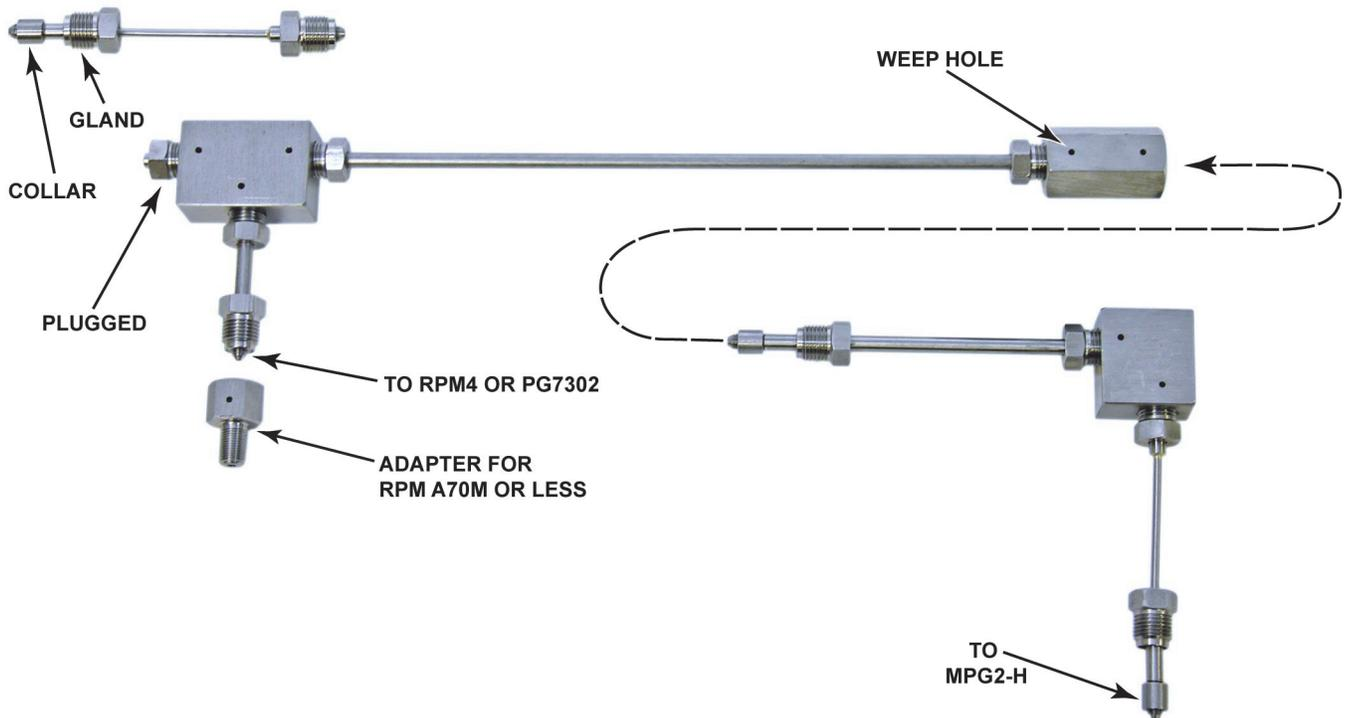

Figure 1: Nipples installed in 3-way tee, elbow and union
- Install nipples into three way tee and elbow:** Install the 2.75 in. nipple into the center port of the three way tee. Install the 12 in. nipple (or 6 in. and 12 in. nipple assembly with union) into either of the end ports on the three way tee as shown in Figure 1. Install 5 in. flexible nipple into elbow. Install 12 in. or 6 in. nipple from tee into elbow. Tighten the nipples with a 5/8 in. wrench or crescent wrench. The flexible 5 in. nipple connects to the MPG2-H. The 2.75 in. nipple in the center of the tee connects to the RPM4 or to the PG7302. In Figure 1 the left port is currently plugged, but the remaining flexible 5 in. nipple can be installed in the left port and connect to the DUT.